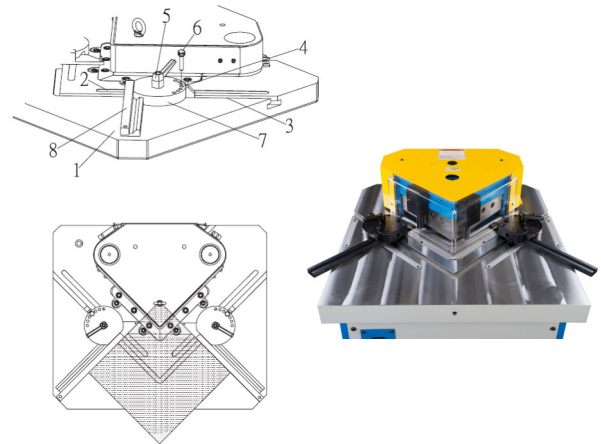
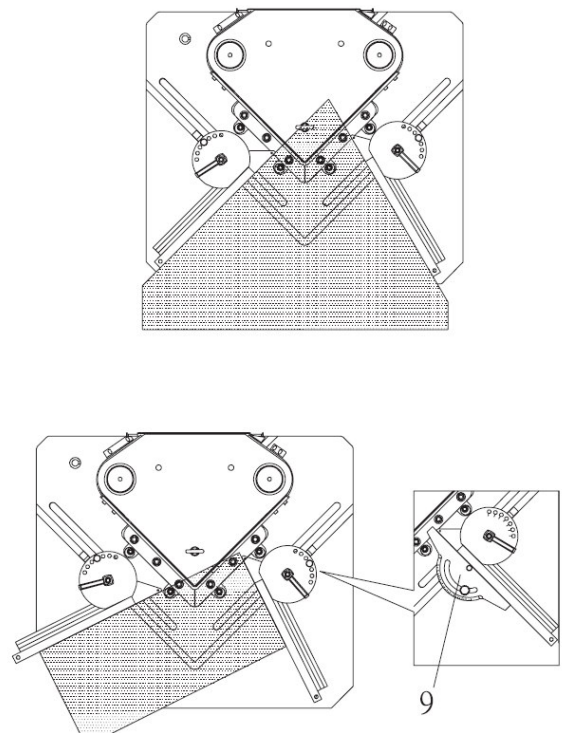

Fig. 23: Limit stops
Fig. 24: Setting the limit stops
Step 3: Loosen the clamping handle (Pos. 5, Fig. 23) and push the stop out to the required workpiece length.
Step 4: Remove pin (Pos. 6, Fig. 23) and set the required number of degrees.
Step 5: Adjust the left and right stops (Pos. 8, Fig.23) to fit the workpiece to the working reference (Fig.24 and 25).